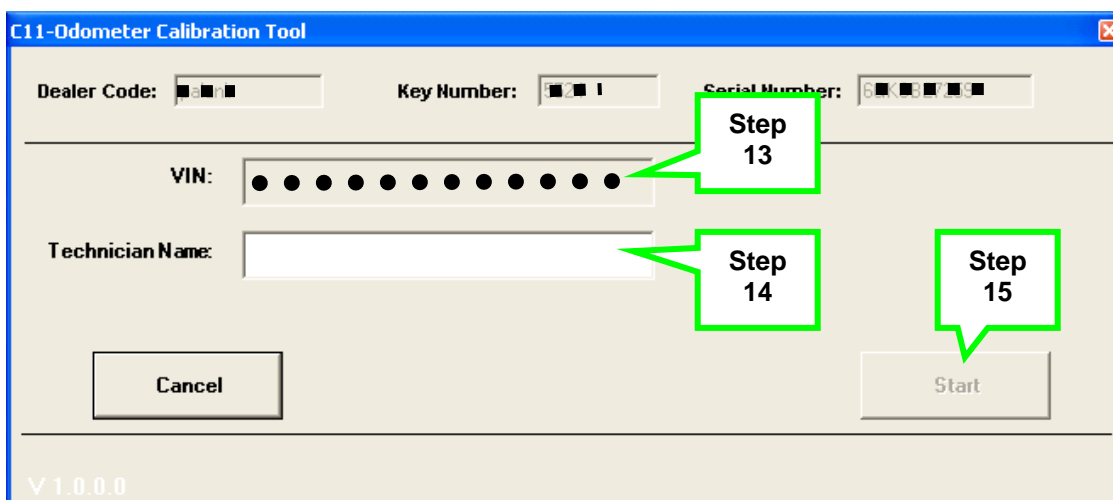

Figure 1j
12. The C11 Odometer Calibration Tool will launch automatically (Figure 1j)